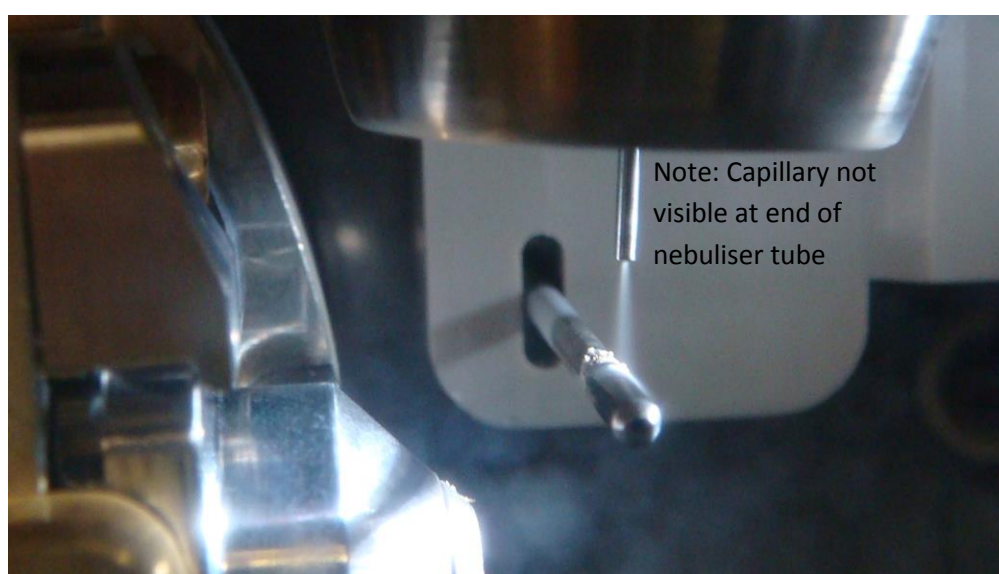

Figure 3. Impactor pin showing build up of contamination
7. The source has been used to run dirty samples, including >1000 injections of protein precipitated plasma and even though the Impactor pin appears to be dirty the sensitivity is not significantly compromised (figure 3).